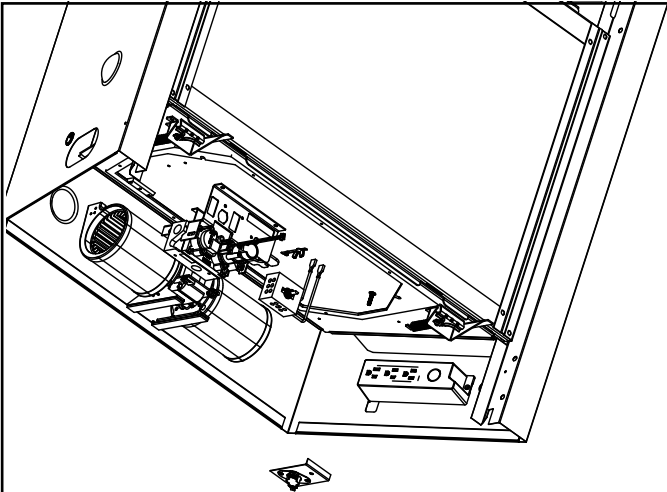

Figure 8.4 Fan Wiring with Rheostat
- Install rheostat in location as seen in Figure 8.4.